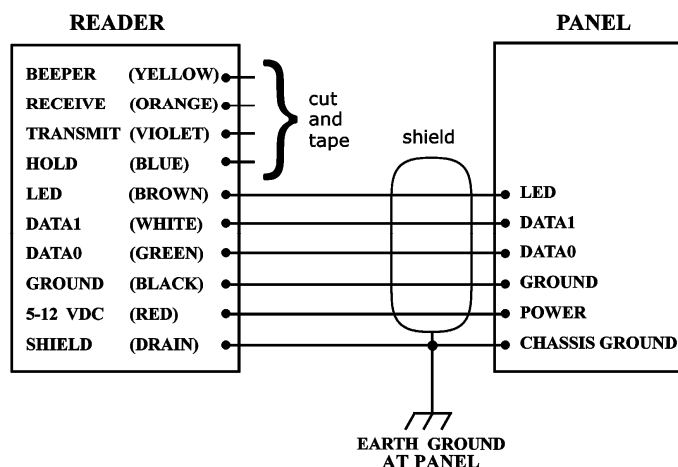

FIGURE 2: Wiring Diagram (Wiegand)
3. Connect the reader's Ground, Data-0, Data-1, LED and Power as shown in Figure 2. Connect the **yellow** wire only if used for Beeper control by the panel. Connect the **blue** wire only if used for Hold control by the panel. **Do not connect** the **orange** and **violet** wires to anything. **Tape or cap** all unused wires singly.
Note: The number of conductors depends upon use of the reader's LED, Beeper and Hold features. See Figure 2.